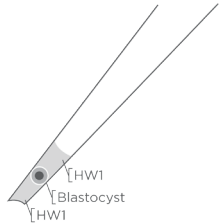
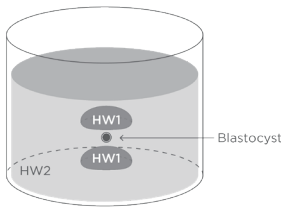

Figure 1. Blastocysts in the middle of HW1
Figure 2. Arrangement of HW1 and HW2 in well 2
- 1) Pipette 20 µL of the HW1 medium containing the thawed blastocysts. The blastocysts shall be in the middle of the HW1 (see Figure 1). Expel the blastocysts to Well 2 containing HW2. The blastocysts and HW1 should be formed into a sandwich pattern (see Figure 2).